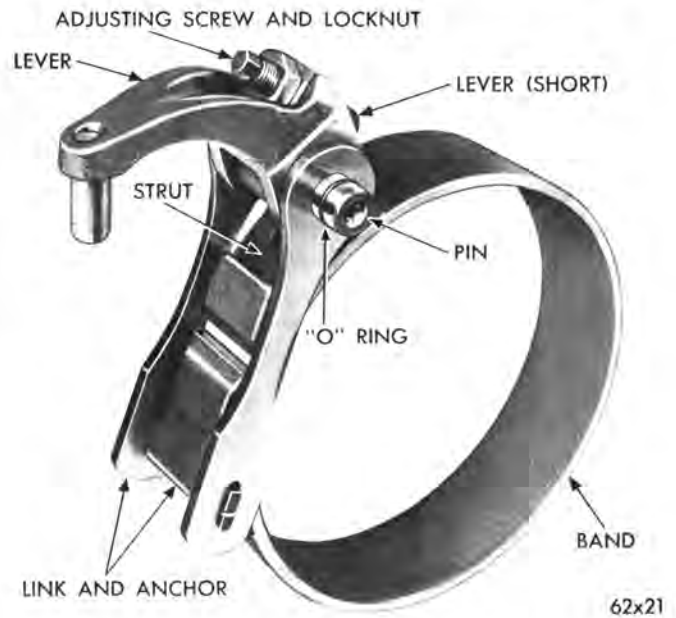

Fig. 113—Low-Reverse Band and Linkage
(2) Compress the low and reverse servo piston spring by using engine valve spring compressor Tool C-3422, then install the snap ring.
(3) Position the rear band in the case, install the short strut, then connect the long link and anchor to the band (Fig. 113). Screw in the band adjuster just enough to hold the strut in place. Install the low-reverse drum.